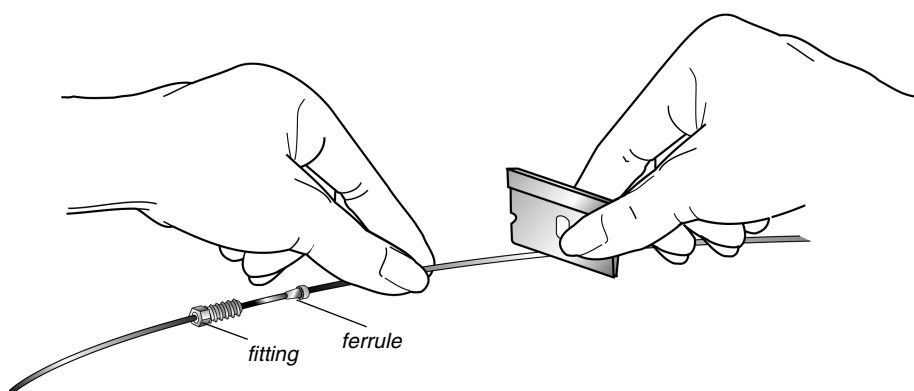

Figure 3-5. Trimming the long red tube
2. Separate the ferrule (white) from the fitting (black), then slide both the ferrule and fitting several inches farther onto the tube (Figure 3-5).
3. Using a new single-edged razor blade, trim the appropriate amount of tube, determined in step 9 above, using a perfectly straight cut (Figure 3-5).
2. Separate the ferrule (white) from the fitting (black), then slide both the ferrule and fitting several inches farther onto the tube (Figure 3-5 on page 3-9).